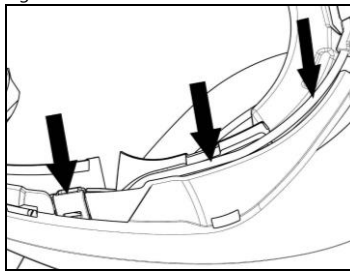

Fig. 13
- Fix the cable inside the helmet and make sure the right fixing clip snaps into its housing (Fig. 13).